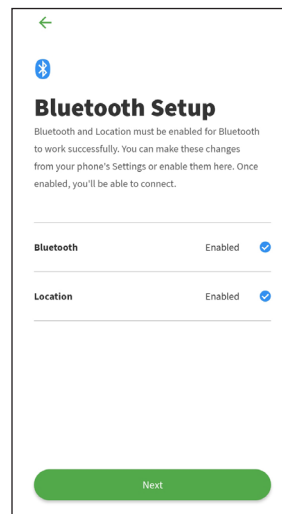

Figure 162 - Confirm Options Enabled
- 4 Select the “Next” button at the bottom of the screen to continue once Bluetooth and Location have been enabled (Figure 162).